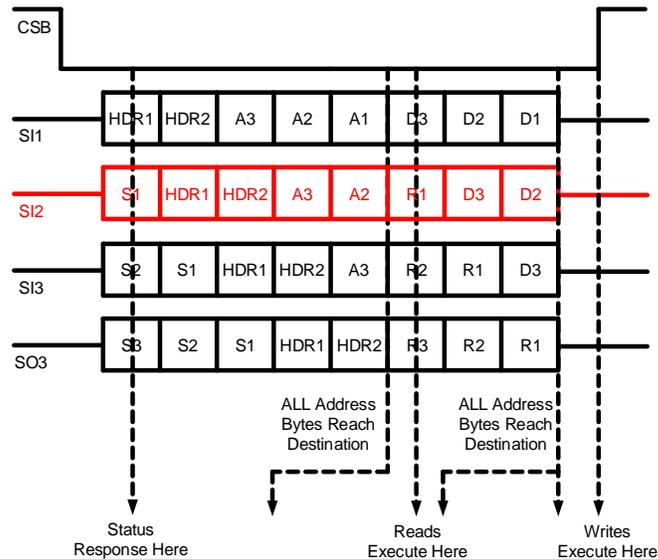

Figure 20. Daisy Chain SPI Operation
The device is designed to support daisy chain operation with other devices that utilize the same SPI protocol, as demonstrated in Figure 20. In this setup, the controller's output (MO) is connected to the serial input (SI) of the first peripheral device. The serial output (SO) of this device is then connected to the SI of the next peripheral, forming a chain. The SO of the last peripheral in the chain is linked to the controller's input (MI), completing the SPI communication loop.
In the daisy chain configuration depicted above, the first device in the chain receives data from the controller in the following format, as shown in SI1 of Figure 20:
Once the data has been transmitted through the chain, the controller receives it back in the format illustrated in SO3 of Figure 20:
The device is capable of determining its position in the chain by counting the number of Status bytes that follow the Header byte. As illustrated in Figure 20, Device 2 identifies its position by recognizing one Status byte (S1) following the Header, while Device 3 identifies two Status bytes (S1, S2) behind the Header. When the device determines the position and the total number of devices connected in the chain, each device can load the relevant address and data bytes into its buffer, effectively bypassing irrelevant bits. This method ensures efficient operation, even in a chain comprising up to 63 devices.